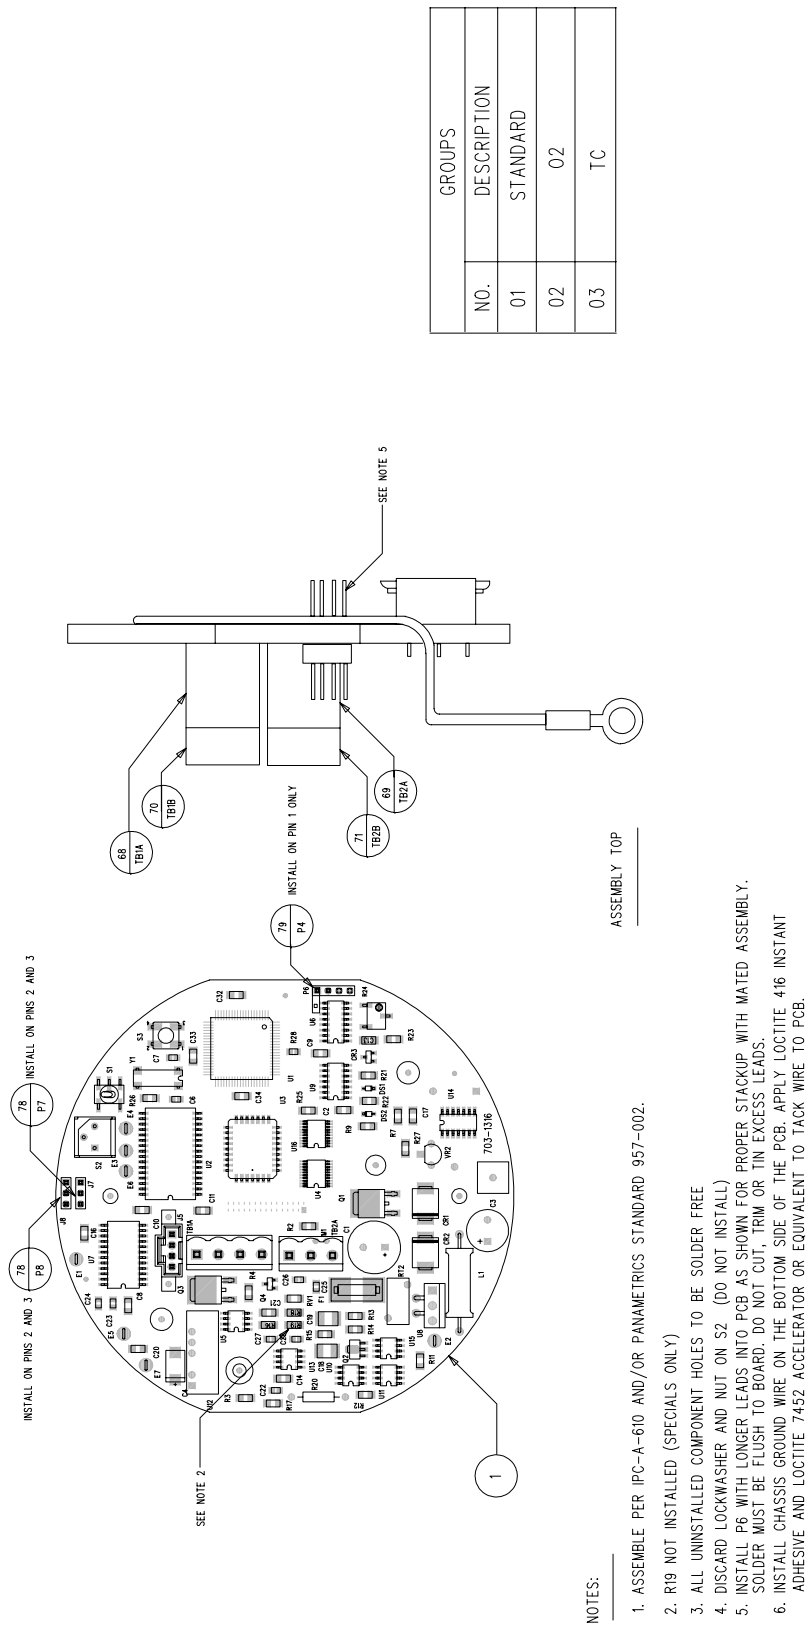

Figure 65: Digital PCB assembly (ref. dwg #703-1316, rev. K, sh.1)
- Figure 65, "Digital PCB Assembly (ref. dwg #703-1316, rev. K, sh.1)" on page 50